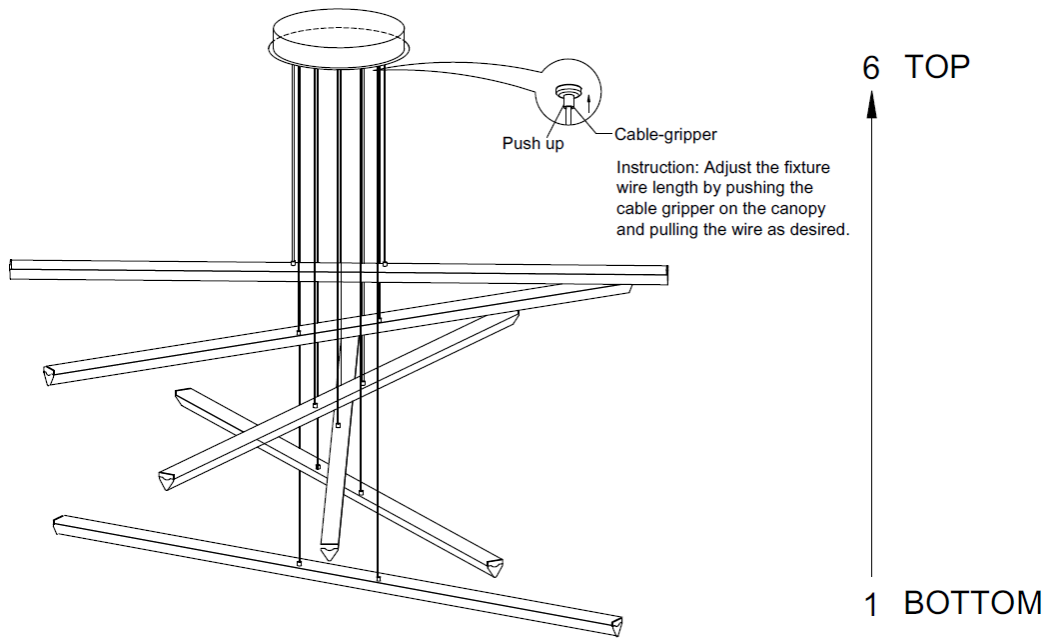

Fig. 5
11. Make additional wires length adjustment to create a desired look (Fig. 5).